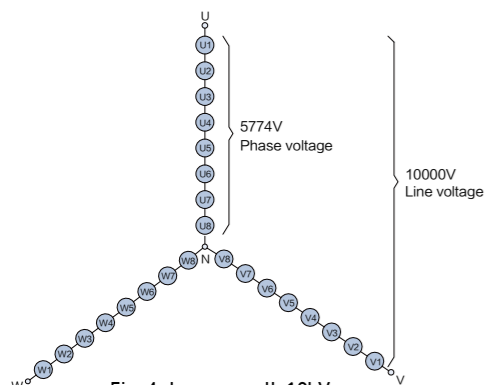

Fig. 4: Inverter cell 10kV
- As shown in Fig. 4, each phase at the 10kV level includes 8 pieces of inverter units connected in series and the phase voltage is approximately 5,774V. The star connection is used for three phases and the line voltage can reach 10,000V.